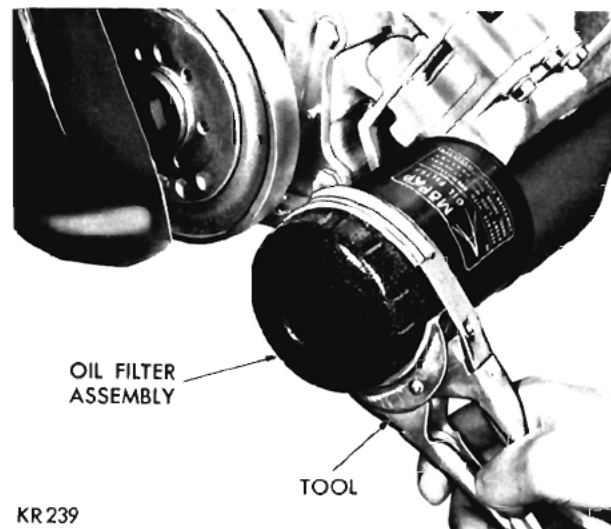

Fig. 129—Removing Oil Filter Tool C-3845
(1) Using Tool C-3845 (Fig. 129), unscrew the filter from the base on the bottom side of the engine and